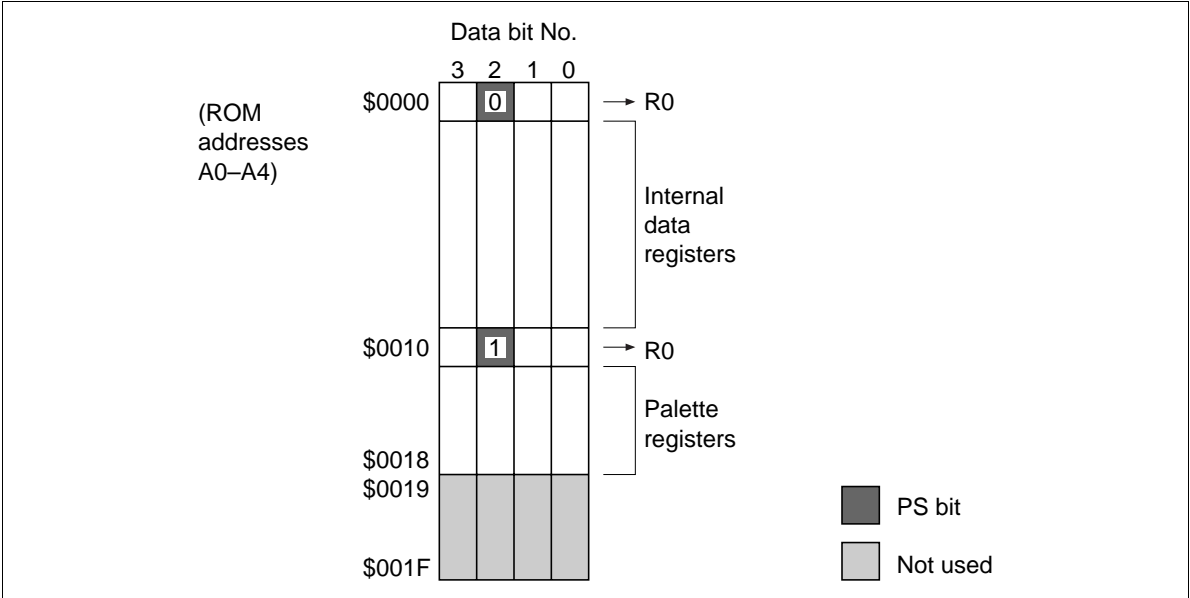

Figure 20 PS Bit Functions in ROM Programming Method
- Data for HD66841 internal data registers can be written into \$0001 to \$000F when bit 2 (the PS bit) of \$0000 is set to 0. Data be set into palette registers can be written into \$0011 to \$0018 when the PS bit of \$0010 is set to 1 (Figure 20).